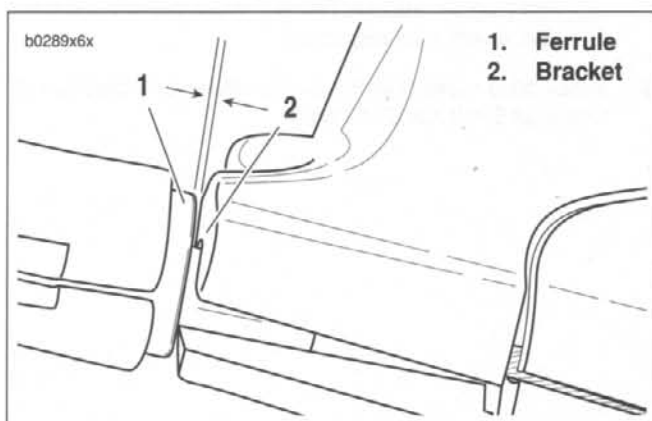

Figure 1-38. Adjusting Clutch Free Play
4. Remove spring (4) and lockplate (5). Turn adjusting screw (6) counterclockwise until it lightly bottoms.
5. Turn adjusting screw (6) clockwise 1/4 turn. Install lockplate (5) and spring (4) on adjusting screw flats. If hex on lockplate does not align with recess in outer ramp, rotate adjusting screw clockwise until it aligns.
- a. See Figure 1-38. Pull ferrule (1) (end of cable housing) away from bracket (2). Gap between ferrule and bracket should be 1/16-1/8 in. (1.6-3.2 mm).